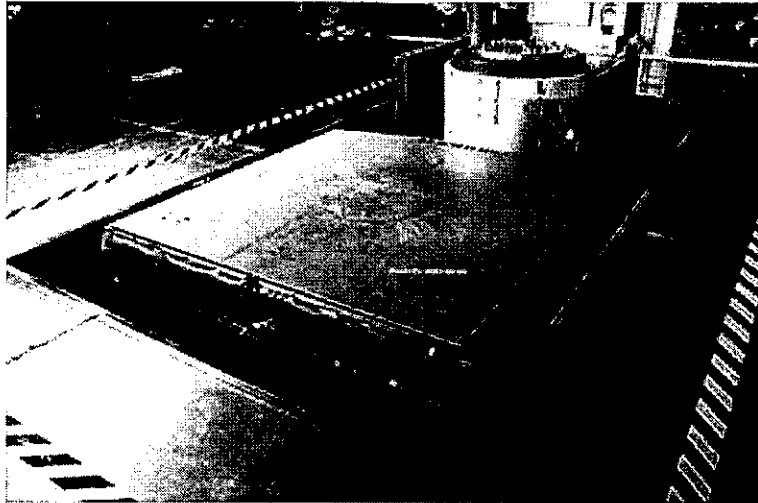

Figure 1: Example of Vibration Test equipment installation*
1.15 The equipment must be able to be installed in an area of 10 meters in length, 10 meters in width and 2.7 meters in depth with the floor load of 5,000 kg / sq. m. The working area shall be level with the adjacent surface according to Figure 1 and the depth shall be no more than 2.7 m. The installation of the vibration test equipment must be done to ensure there is no vibration to the building when the equipment is in use.